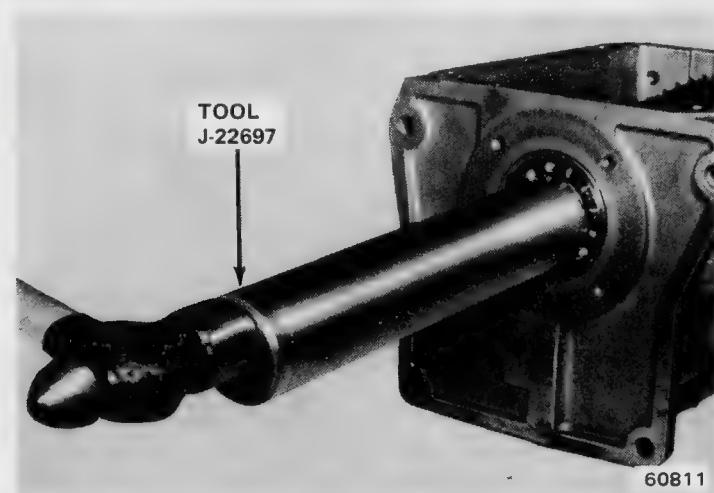

Fig. 2B-40 Front Bearing Installation
(9) Install front bearing retaining and locating snap rings.
(10) Install front bearing cap oil seal in front bearing cap using tool J-26625 (fig. 2B-41).